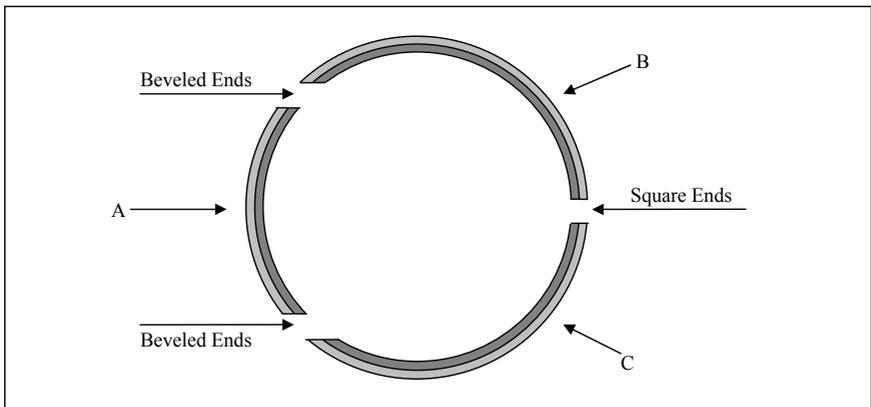

Figure 1. Locking ring set
9. Refer to Figure. 1 for locking ring segment identification.